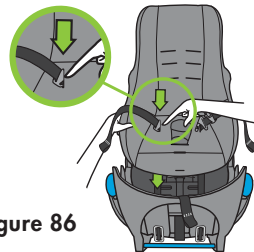

Figure 86
- Position Chest Clip so that end of Chest Clip is aligned with the hip strap opening, and push Chest Clip down through hip strap opening in Carrier Cover and Inner Carrier Shell, as shown in **Figure 86**.